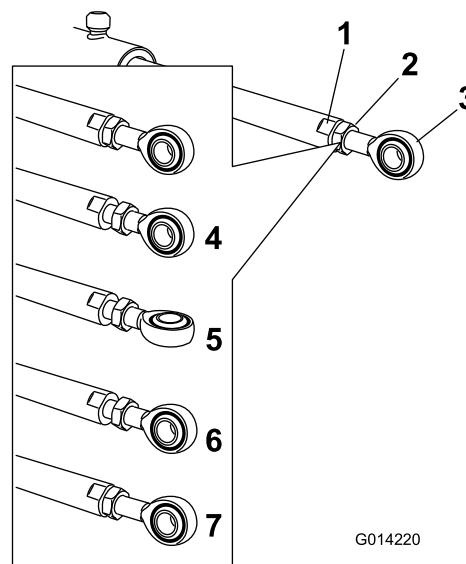

Figure 75
- Use a wrench on the flat sides of the actuator rod to immobilize it then loosen the jam nut to allow for the eyelet rod to be manipulated (Figure 75).
- Turn the eyelet rod in the actuator rod to shorten or lengthen the extended actuator to the desired position (Figure 75).